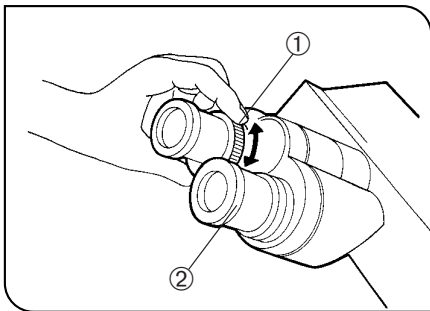

Fig. 22
#### 2 Adjusting the Diopter (Figs 22 & 23)
2. Looking through the eyepiece with the diopter adjustment ring, turn only the diopter adjustment ring ① to focus on the specimen. (Fig. 22)
1. Looking through the right eyepiece with your right eye, turn the top of the eyepiece ② until a clearly defined double crossline can be seen in the field of view. (Figs. 22 & 23)
3. Looking through the left eyepiece with your left eye, turn the diopter adjustment ring ① to focus on the specimen.